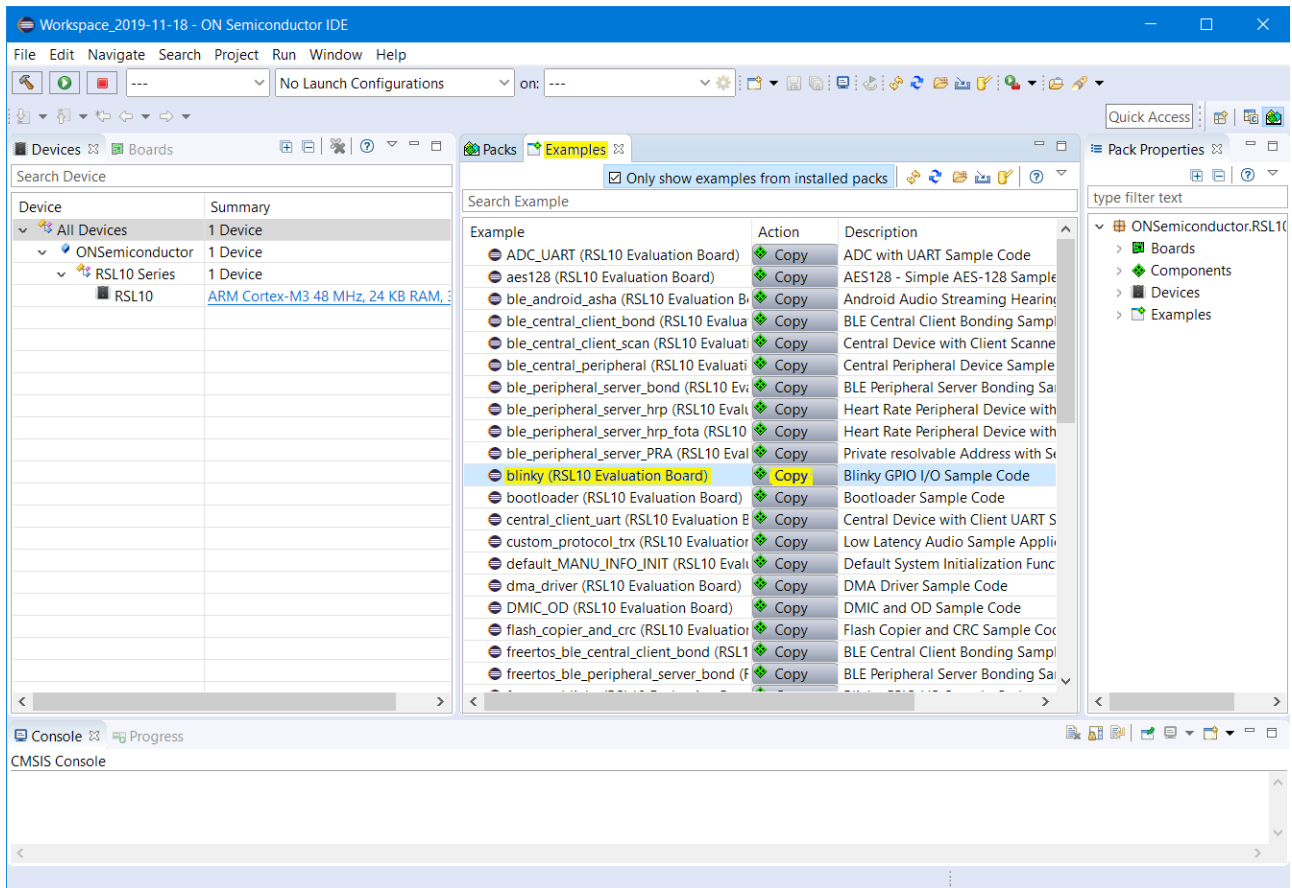

Figure 5. Pack Manager Perspective: Examples Tab
2. Choose the example project called *blinky*, and click the **Copy** button to import it into your workspace (see the figure "Pack Manager Perspective: Examples Tab" (Figure 5)).